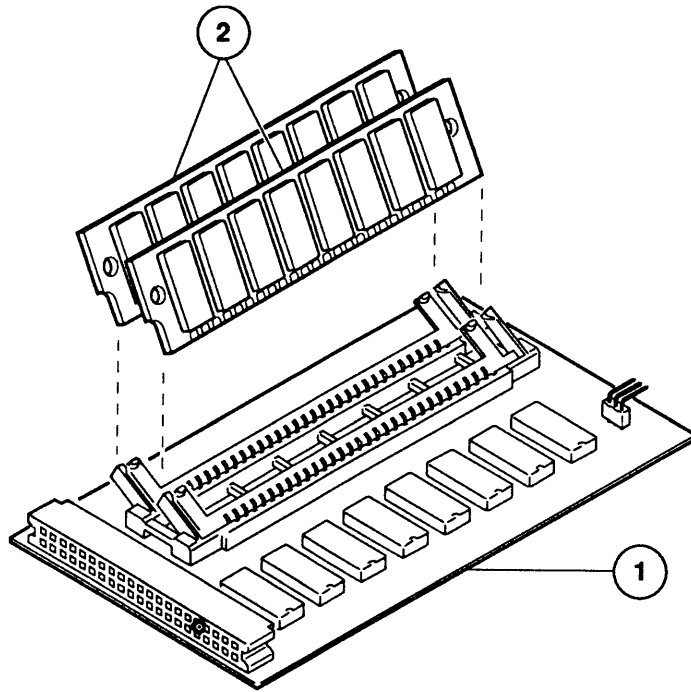

Figure 2 Memory Expansion Board—Macintosh Classic only
(Figure 2)
□ MEMORY EXPANSION BOARD – CLASSIC ONLY (Figure 2)